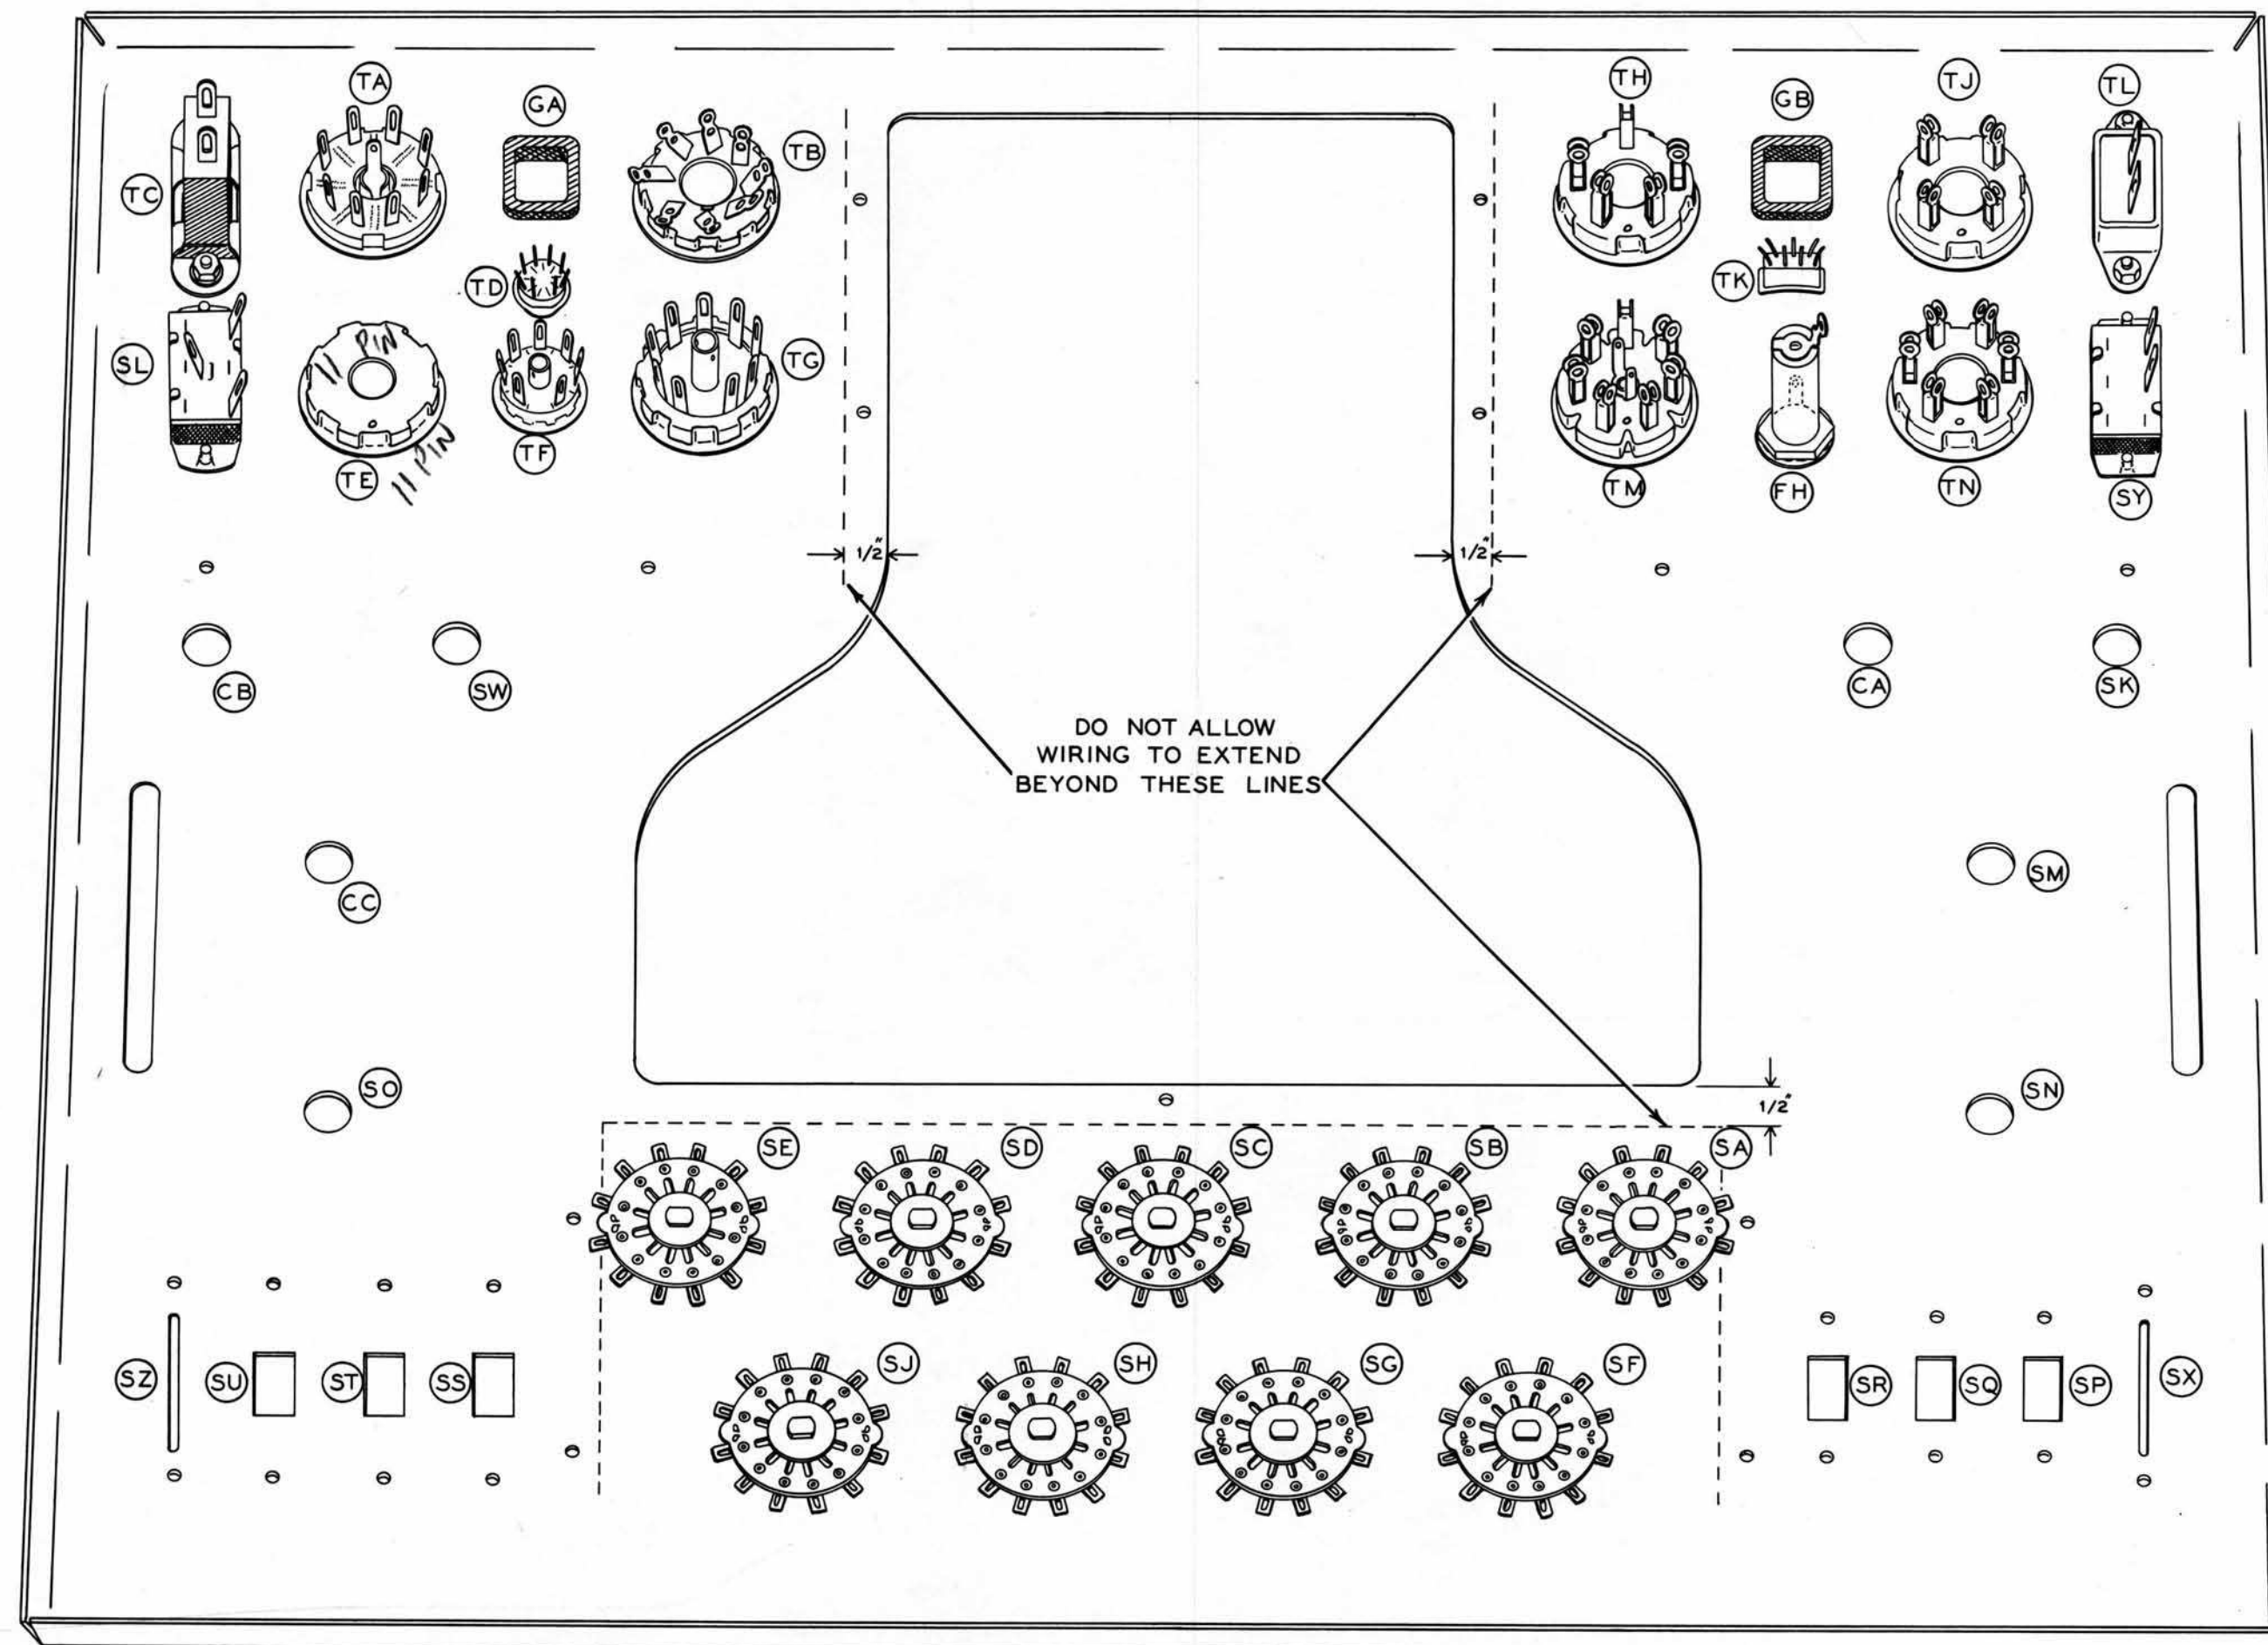

Figure 1
Mount the following components in the top left hand corner of the front panel. See Figure 1.
Mount the following components in the top right hand corner of the front panel. See Figure 1.
- () Fuse holder FH (rubber washer on outside of panel). Orient as shown in Figure 1.